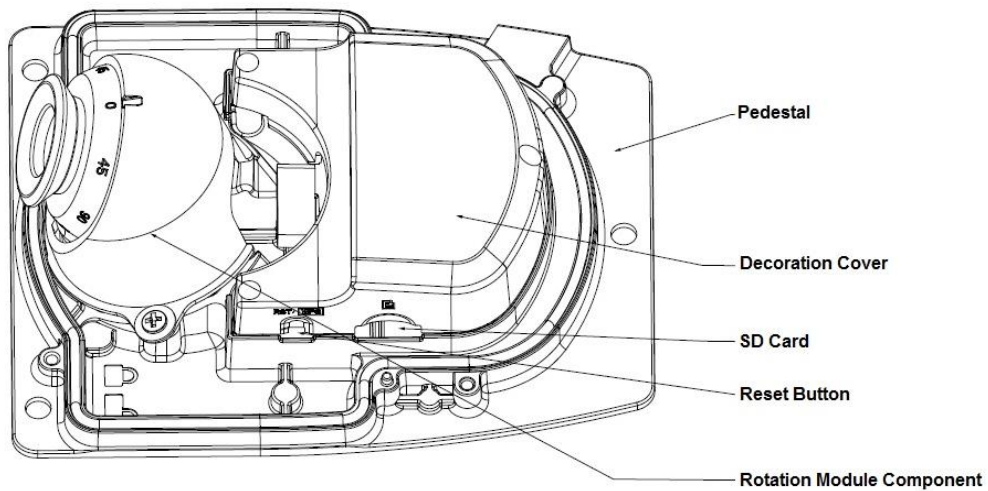

Figure 2-2
**Step 2** (Optional) Install Micro SD card, which is shown in Figure 2-2.